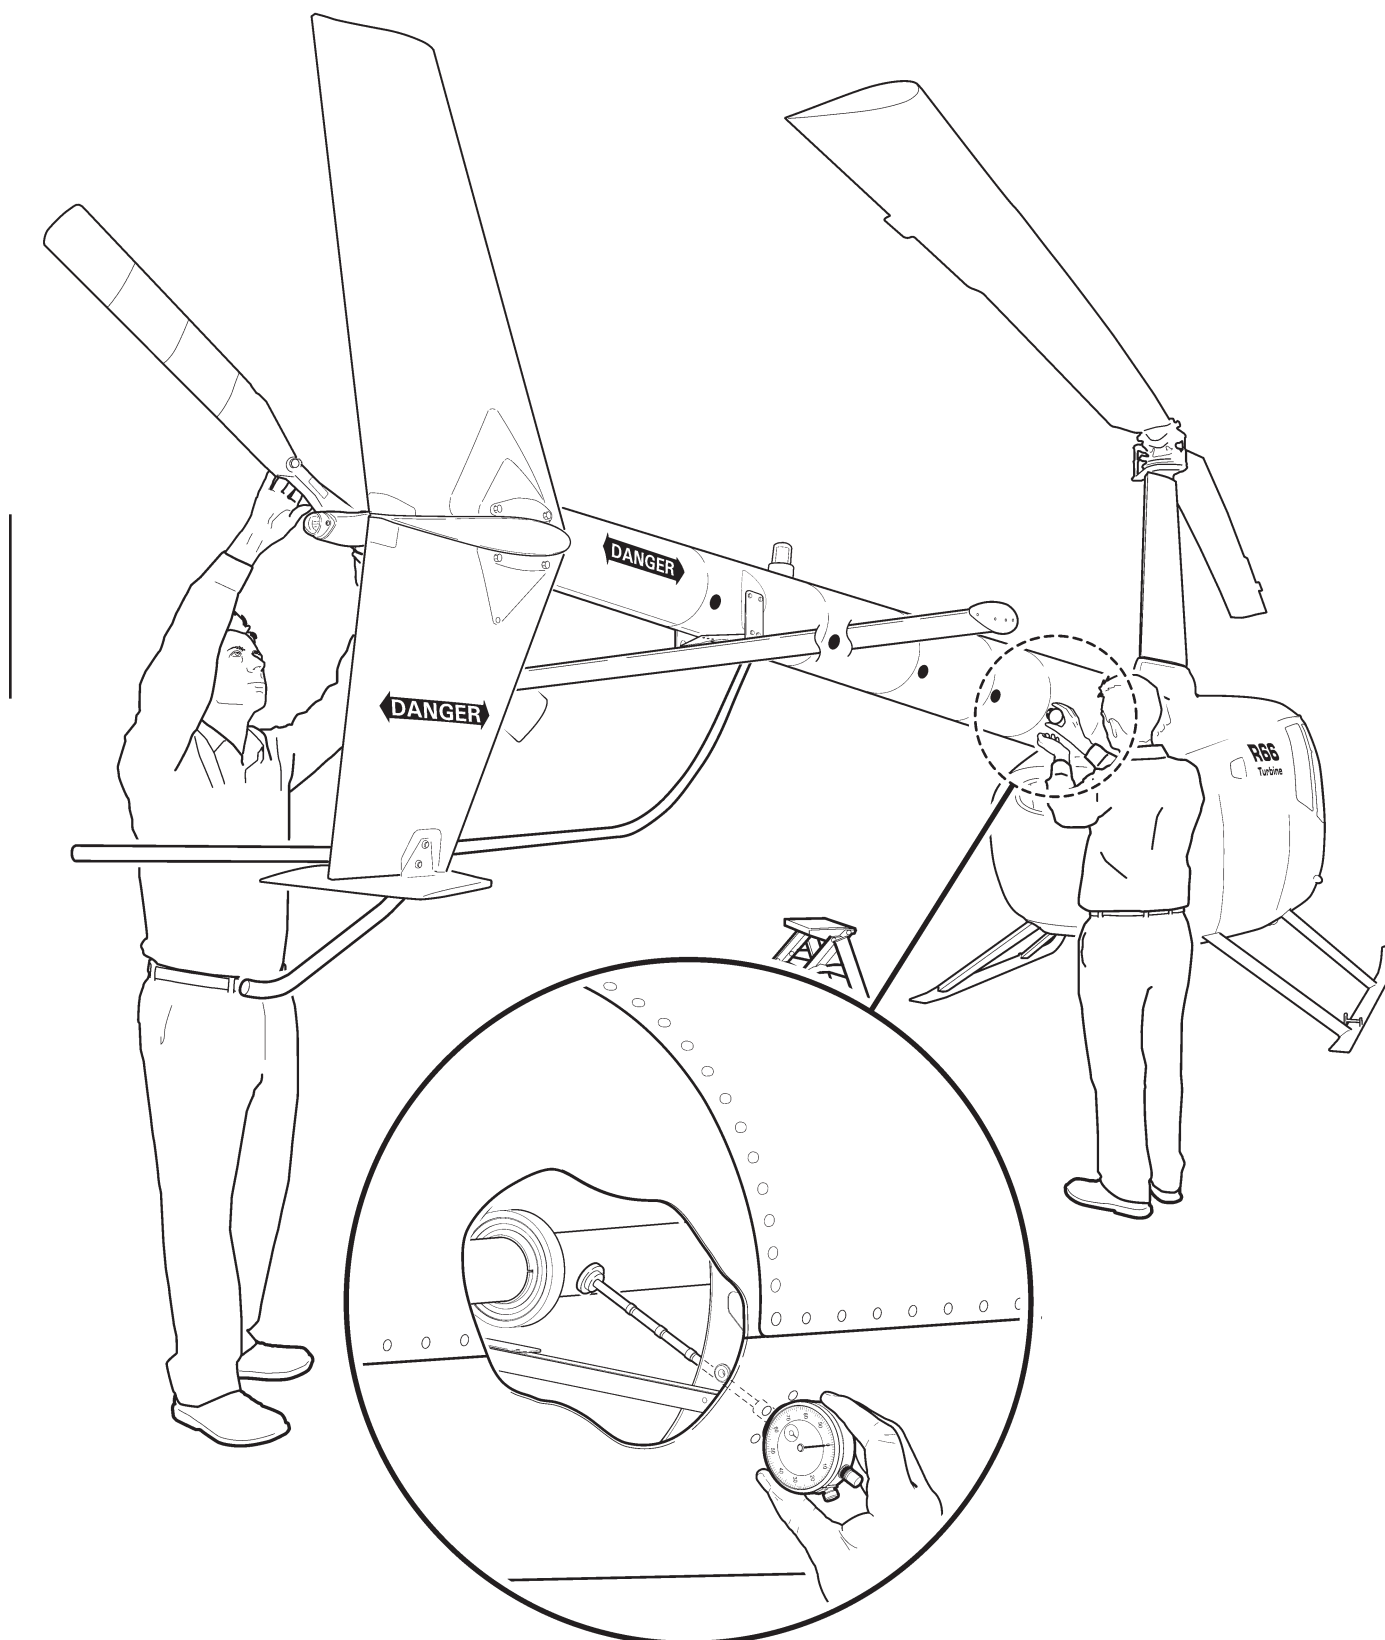

FIGURE 65-2 RUNOUT
3. Refer to Figure 65-2. Using appropriate combination of extension(s), insert tool through tailcone inspection hole. Verify foot squarely contacts tail rotor drive shaft when pressing dial indicator firmly against inspection hole edges. Have a second person rotate rotor system by turning tail rotor hub.